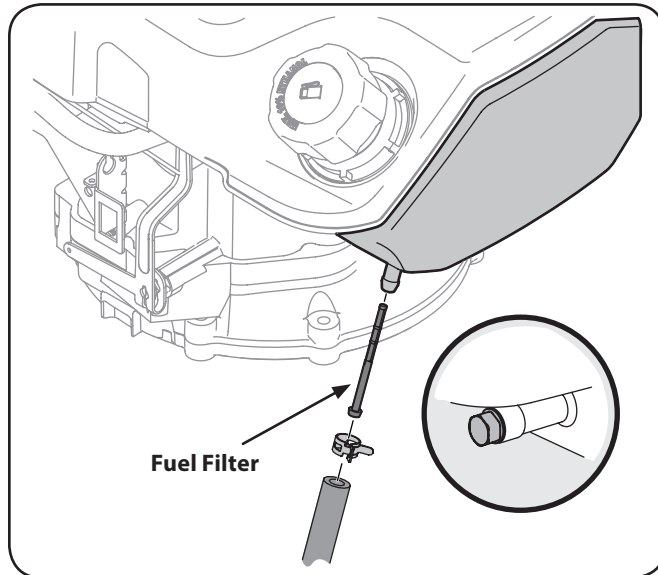

Figure 6-8
2. Remove hose clamp from fuel line and remove fuel line from tank outlet. See Figure 6-8.
4. Grasp new fuel filter from shouldered end and insert it completely to the shoulder into the tank outlet. See Figure 6-8 inset.